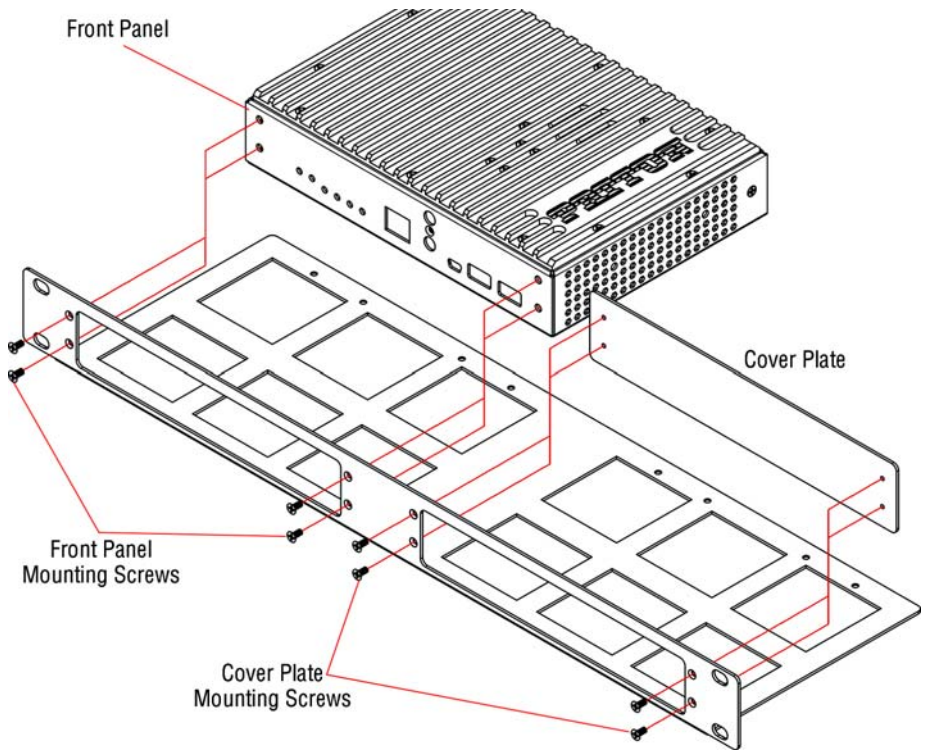

Figure 7. Installing the FPX6000 and Cover Plate
2. Use 4 mounting screws included with the bracket to secure the FPX6000 front panel to the bracket at one of the mounting locations on the rack-mounting bracket (see figure 7 on page 8).
4. If there is another FPX6000 to install in the bracket, go to step 5. Otherwise, use 4 mounting screws included with the bracket to install the cover plate (see **figure 7**), then go to step 6.